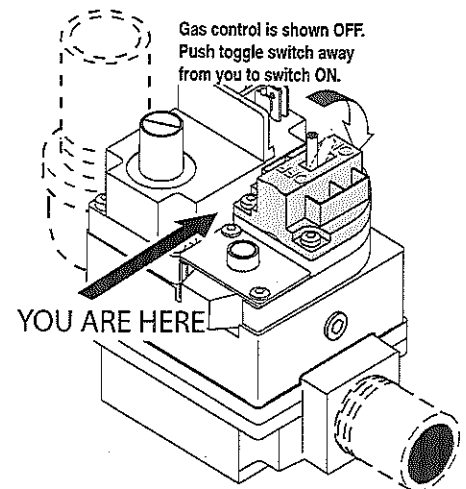

Figure 37.
6. **Toggle-Style Valve:** Pull toggle toward you to turn gas off, see **Figure 37**.
7. Wait five (5) minutes to clear out any gas. If you then smell gas, **STOP!** Follow "B" in the "Before Start-up" instructions (page 42). If you don't smell gas, go to the next step.
4. **Toggle-Style Valve:** Pull toggle toward you to turn gas off, see **Figure 37**.